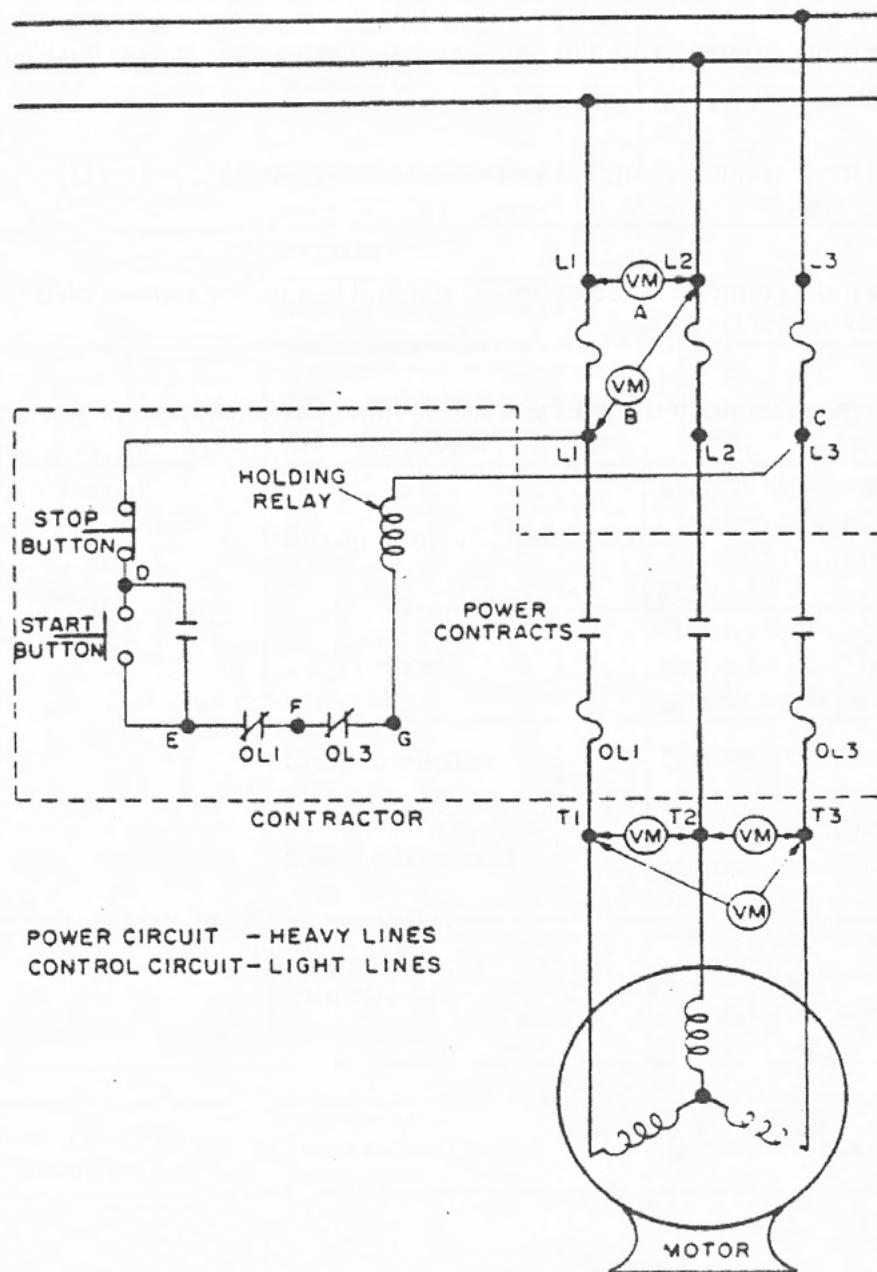

Figure 1
When no visual signs of failure can be located, and an electrical failure is indicated in the power circuit, you must first check the line voltage and fuses as shown in (figure 1). Place the voltmeter prods on the hot side of the line fuses as shown in position "A". A line voltage reading tells you that your voltmeter is operational and that you have voltage to the source side of the line fuses L1 - L 2.
2. Place the voltmeter probe at point C and D (figure 1). You should have a voltage reading when the STOP switch is closed and have a non-voltage reading when the STOP switch is open. The conditions would indicate a good STOP switch.